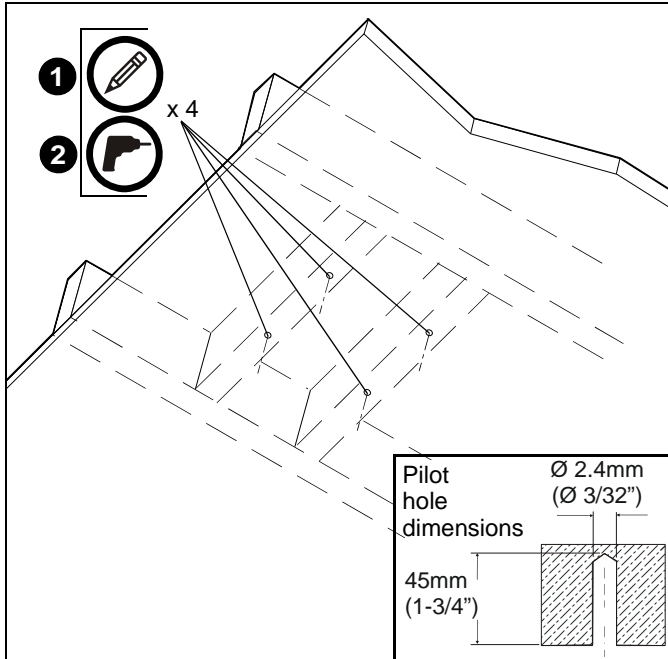

Figure 3
1. Using the RPMX as a guide, mark four mounting hole locations. (See Figure 3)